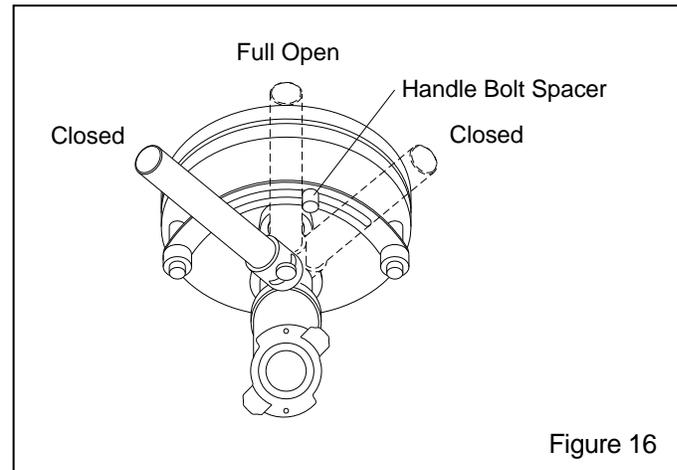

Figure 16
**4.1 Adjust Abrasive Flow - Figure 16**